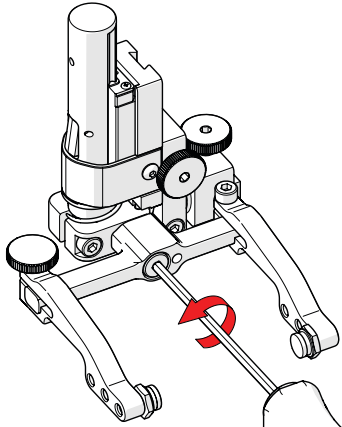

Fig. 68 - Unscrew yoke pivot screw
2. Using the supplied 3 mm hex driver (Fig. 1), unscrew the yoke pivot screw and remove yoke (Fig. 68).